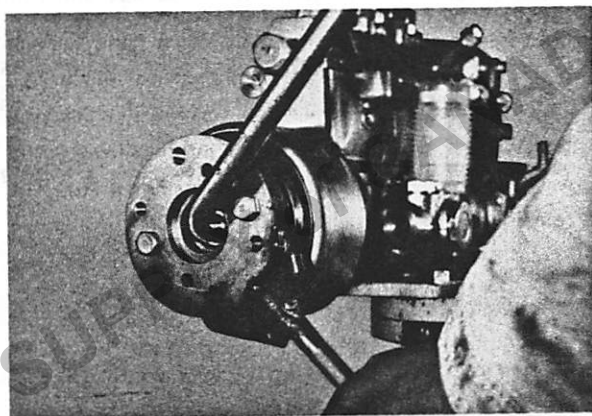

Fig. 4-73 Removing the round nut
2. Remove the round nut using the socket wrench (Part No. 95906-03010) and holding wrench (Part No. 95806-03020) shown in **Fig. 4-73**.